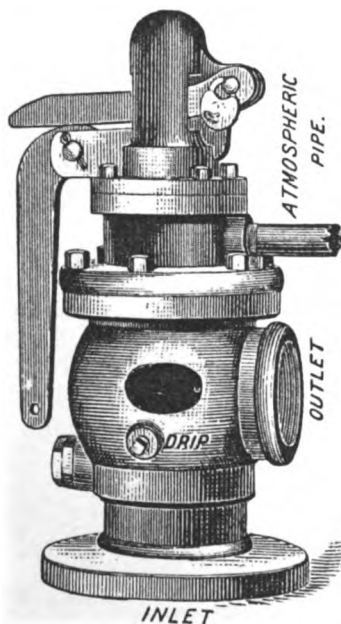

Fig. 505.
Sizes 2 1/2 to 6 inches are made as per cut, Fig. 505.
When ordering valves Figs. 505 and 506 state square feet of grate surface and working pressure; also whether flange or screw end is desired.
**Figs. 505 and 506.**